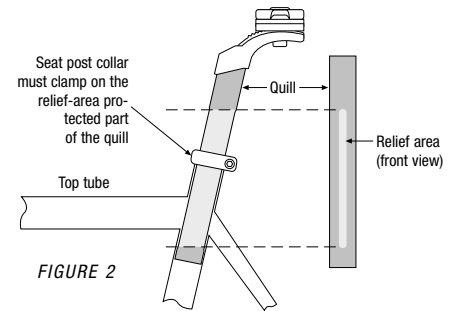

FIGURE 2
**IMPORTANT:** Easton carbon seat posts are constructed with Relief Area Design™ (RAD), a patented Easton design feature. The relief area is a flattened section of the seat post quill that protects the post from being pinched when the seat tube collar is tightened (see Figure 2). Because the relief area does not extend the full length of the quill, it is important to make sure that your seat tube collar is positioned within the relief area. If you insert the post too far into the seat tube, you may clamp down on an unrelieved area of the quill.